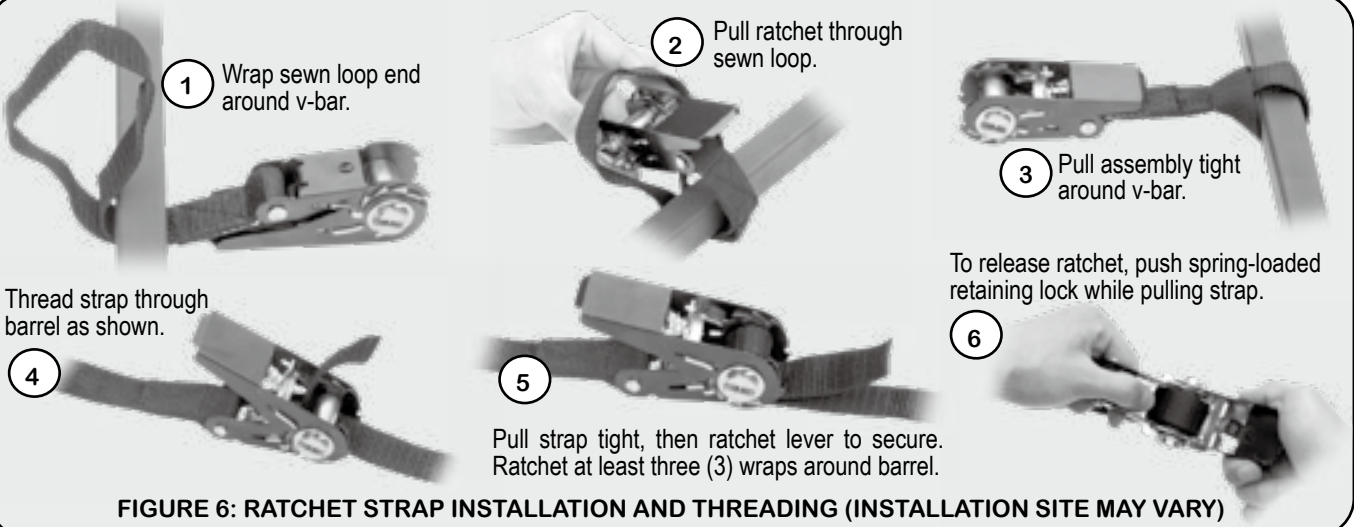

FIGURE 6: RATCHET STRAP INSTALLATION AND THREADING (INSTALLATION SITE MAY VARY)
STEP 4: Locate the looped ratchet strap (P) (refer to Figure 1). Install the looped end(s) of the ratchet strap assembly to each side of the v-bar as shown in Figure 5. For installation and threading instructions refer to Figure 6.
STEP 10: Locate the two (2) 16' stabilizing ropes (Q) hanging down from the v-bar. Pull down on the ropes from behind the tree and criss-cross the ropes behind the tree to form a "X" with the ropes. Keeping tension on the ropes, walk around to the front of the tree and tie each rope off to each side of the ladder section rung (to rung closest to ground level). These ropes will hold the top section to the tree until the platform section is secured to the tree with the looped ratchet strap (P). NEVER REMOVE the ropes from the tree nor attempt to climb the ladder unless the 8'/16' stabilizing ropes (Q&R) and adjustable support bar assembly (S) is firmly attached to the tree.
Note: Review, understand, and follow all looped ratchet strap (P) instructions for proper threading (refer to Figure 6) prior to leaving the ground to secure the looped ratchet strap (P). Check to insure all ladder sections are secured with quick pins (N) in place and closed. Make certain the ground is firm and level under the bottom ladder section, and all 8'/16' stabilizing ropes (Q&R) and the adjustable support bar assembly (S) is secured firmly against the tree.
STEP 11: Next, being extremely careful, slowly climb up while leaning forward with three (3) points-of-contact as you climb. Upon arrival to top ladder rung, attach your full-body fall arrest tether to the tree prior to securing the looped ratchet strap (P). Next, wrap the looped ratchet strap (P) around the tree trunk and thread as shown in Figure 6. Secure the looped ratchet strap (P) firmly against the tree by ratcheting the assembly. Tie off loose ends. Always check ALL straps before each use for damage or wear. NEVER stand and/or kneel on the foot or seat platforms while securing or removing the looped ratchet strap (P) to or from the tree.